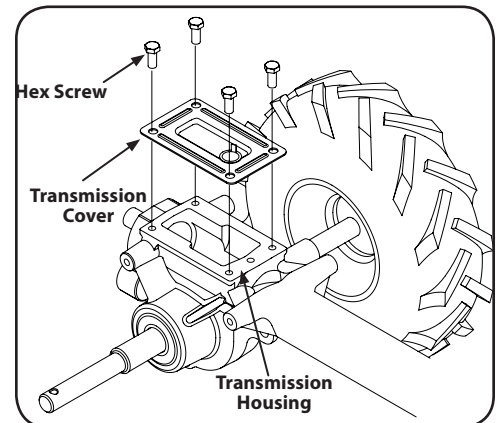

Figure 4-5
- Remove all dirt and clean the area around the transmission cover. See Figure 4-5.
- Remove the four hex screws ($\frac{5}{16}$ -18 x .75) securing the transmission cover to the drive shaft and remove the cover. See Figure 4-5.